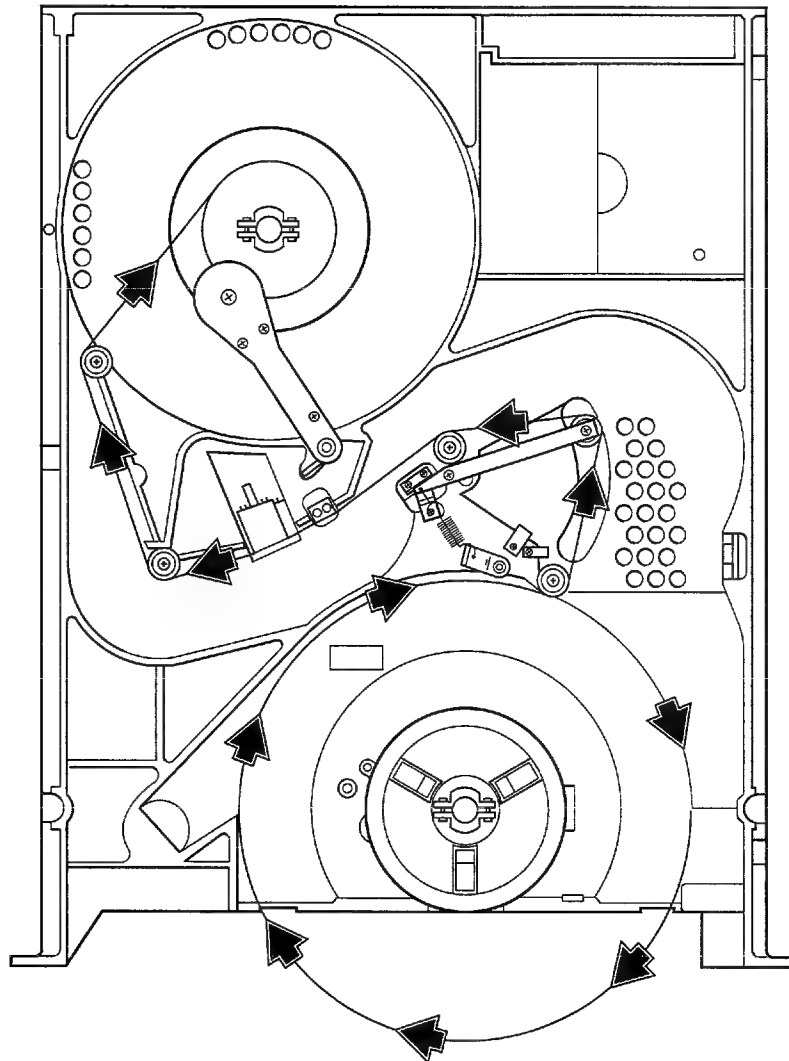

Figure 3-3. Tape Path
5. Thread the tape along the path shown in Figure 3-3. Move the tachometer arm away from the take-up hub carefully, wrap the tape clockwise around the take-up hub until the end of the tape is held by the next layer, then turn the hub clockwise five revolutions. Gently place the tachometer arm back against the hub.